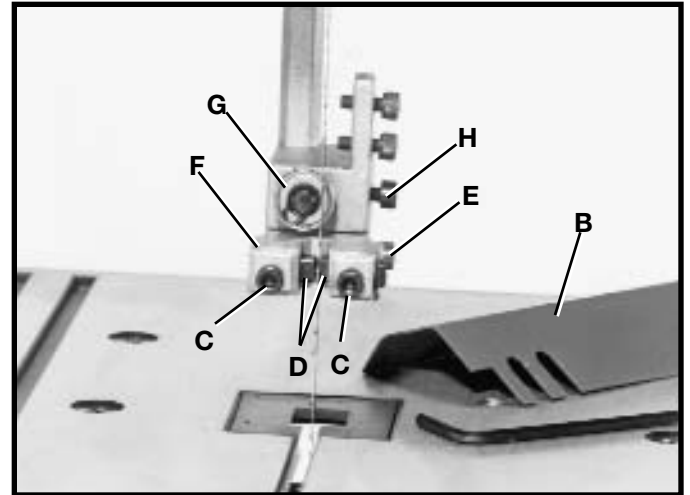
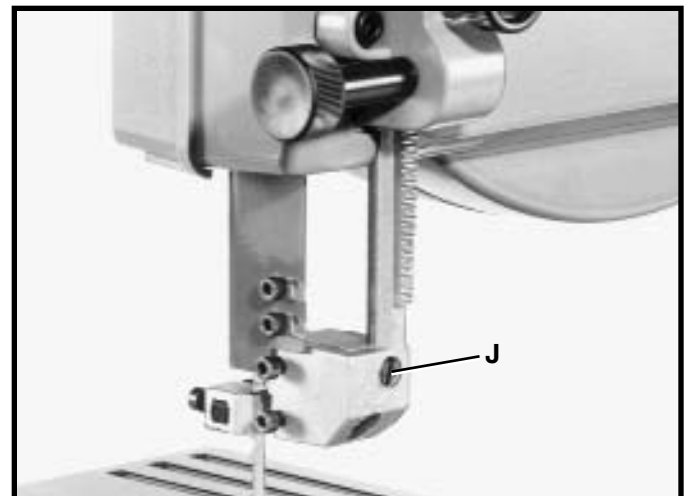

Fig. 22
Fig. 23
1. **NOTE:** Upper blade guard (B) Fig. 22, is shown removed for clarity.
2. Loosen the two screws (C) Fig. 22, and adjust the blade guides (D) as close as possible to the sides of the saw blade, being careful not to pinch the blade. Then tighten the two screws (C).
3. Loosen screw (E) Fig. 22, and move the guide bracket (F) in or out until the front edge of the guides (D) are just behind the "gullets" of the blade teeth. Then tighten screw (E).
4. The upper blade support/thrust bearing (G) Fig. 22, prevents the saw blade from being pushed back too far when cutting. The support bearing (G) should be adjusted approximately 1/32" behind the blade, so the back of the blade overlaps the outside diameter of the ball bearing by approximately 1/8". To adjust, proceed as follows:
5. Loosen screw (H) Fig. 22, and slide support bearing (G) in or out until it is approximately 1/32" behind the saw blade.
6. The upper blade support bearing (G) Fig. 22, is set on an eccentric shaft. To change position of bearing (G), use a straight screwdriver, rotate shaft (J) Fig. 23, until the blade properly overlaps the support bearing. Then tighten screw (H).